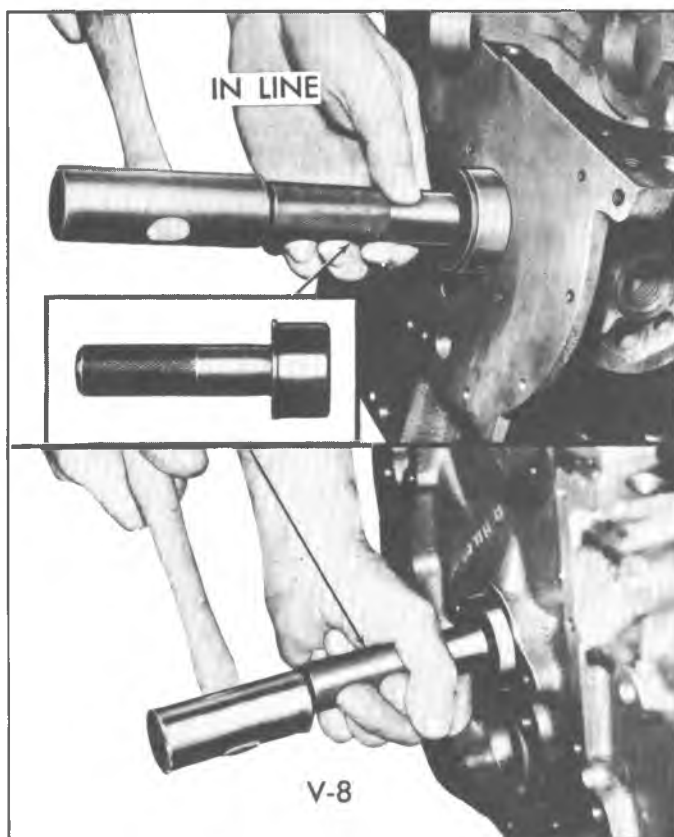

Fig. 68—Replacing Camshaft Front Bearing
bearings by driving towards center of cylinder block (fig. 68).
1. Assemble remover and installer tool on driver handle and install camshaft front and rear bearings by driving towards center of cylinder block (fig. 68).